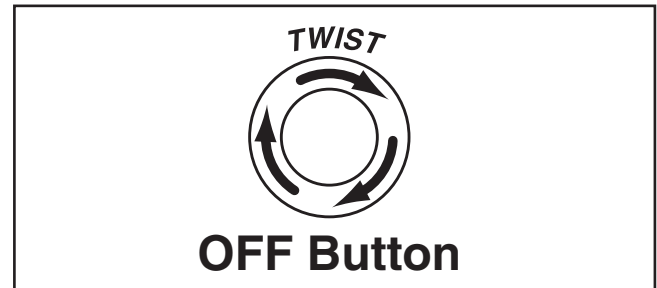

Figure 21. Resetting the OFF button.
5. Push the OFF button in, then twist it clockwise so it pops out. When the OFF button pops out, the switch is reset and ready for operation (see **Figure 21**).